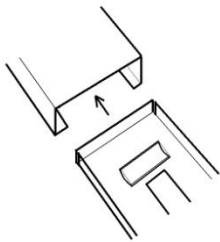

fig. 1
1. Insert the slide bar through the open end in the hinged bar (fig. 1). Move the slide bar into position so that the three holes in the center of the slide bar are visible through the slot in the hinged bar.